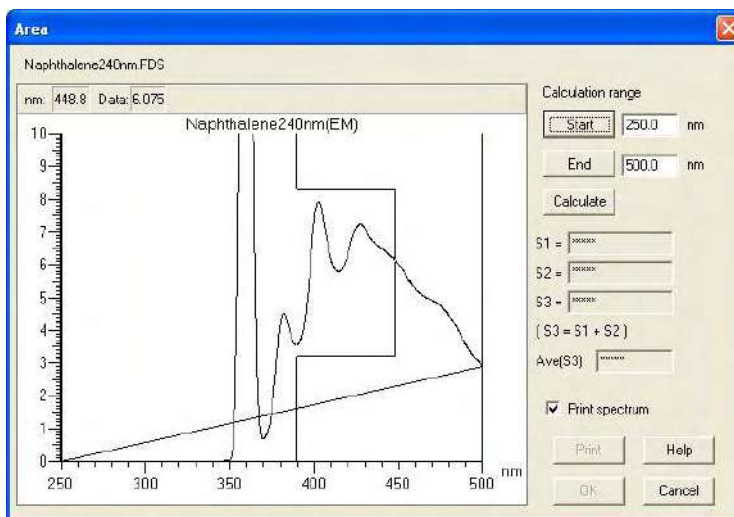

Fig. 7-37
- (1) As shown in Fig. 7-37, specify an area to be expanded by drawing a rectangle with the mouse while holding down its left button on a spectrum.